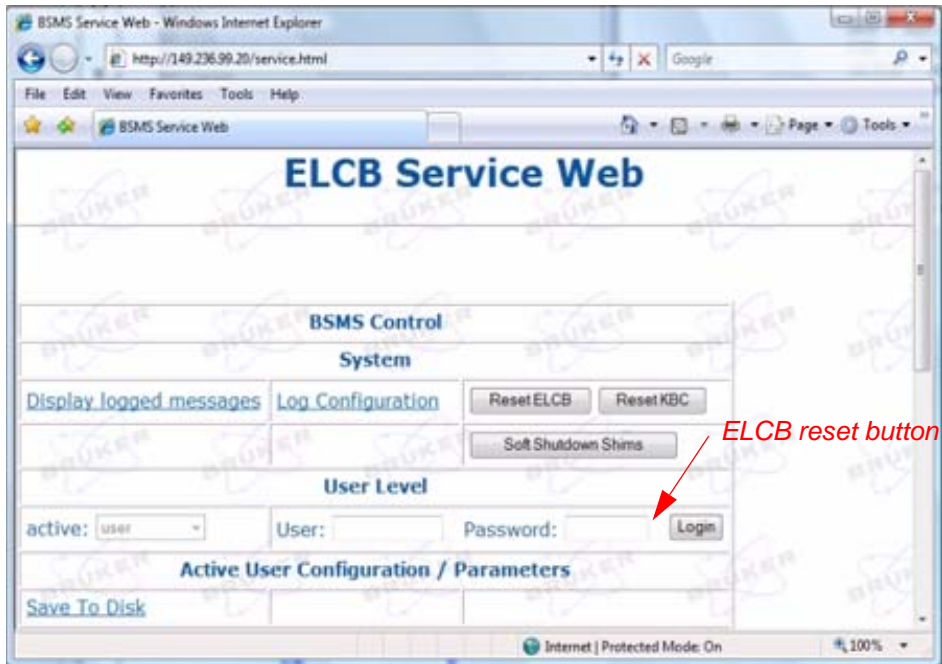

Figure 12.5: BSMS Service Web Window
2. Close this browser window and go back to the Hardware ethernet addresses window. Press the 'Open' button for the Lock/Shim (BSMS) device. Choose ELCB Service Web, Service to open the window shown in figure 12.5. Press the Reset ELCB button.